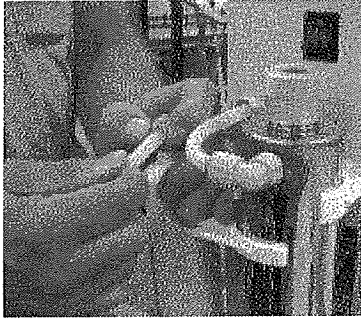

Figure 1
3. Start with the hose on the top of the filter. Push the tubing against the fitting (figure 1); this removes the pressure on the retaining ring.